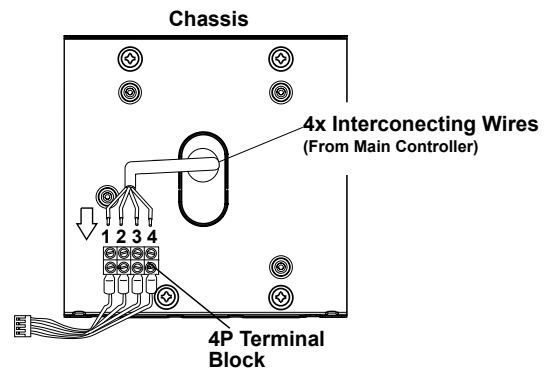

Fig.3-21 Interconnecting Wires Connection in Sub Controller
4. Cut 4 interconnecting wires from main controller to a workable length. Strip 3/16" insulation off the wires and connect them to the 4P terminal block. Terminal number for each wire should be matched to the terminal number in the main controller. (Fig.3-21)